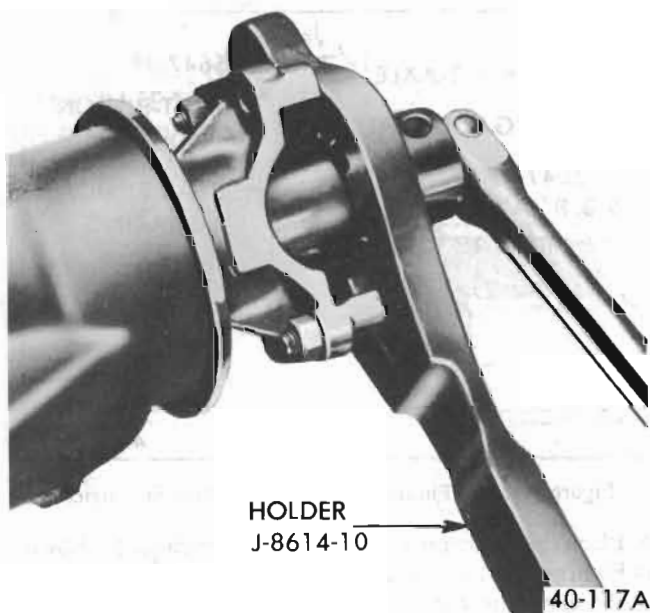

Figure 40-135 - Installing Pinion Nut
5. Install pinion washer and nut. Hold pinion flange with Holder J-8614. While intermittently rotating pinion to seat bearings, tighten pinion nut until end play begins to be taken up. See Figure 40-135.